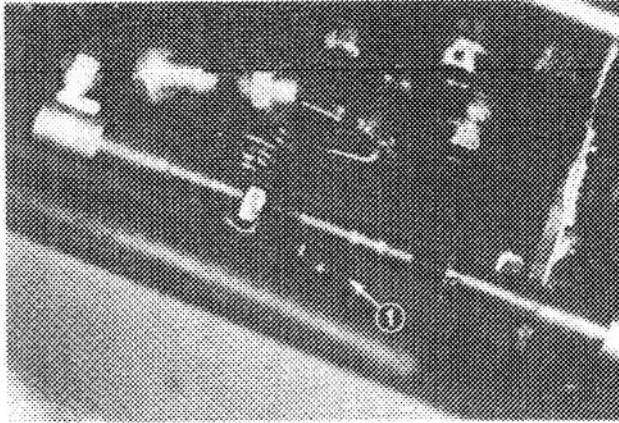

Figure 30
**Engine Stop Lever (Fig. 30)**—Located on the lower right side of the engine inboard of the air cleaner assembly. Provided as a means to stop the fuel flow, thereby stopping the engine, if an electrical malfunction should occur. Use only for emergencies.